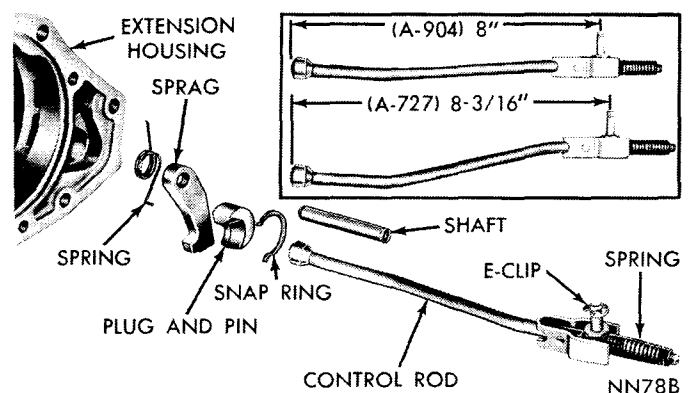

Fig. 34—Parking Lock Components
(1) Remove extension housing.
(2) Slide shaft out of extension housing to remove the parking sprag and spring (Fig. 34). Remove snap ring and slide the reaction plug and pin assembly out of the housing.
(3) To replace the parking lock control rod, refer to "Valve Body—Removal and Installation."
(1) Install reaction plug and pin assembly in the housing and secure with snap ring (Fig. 34).
(2) Position sprag and spring in housing and insert the shaft. Make sure square lug on sprag is toward parking gear, and spring is positioned so it moves sprag away from the gear.
(3) Install extension housing.